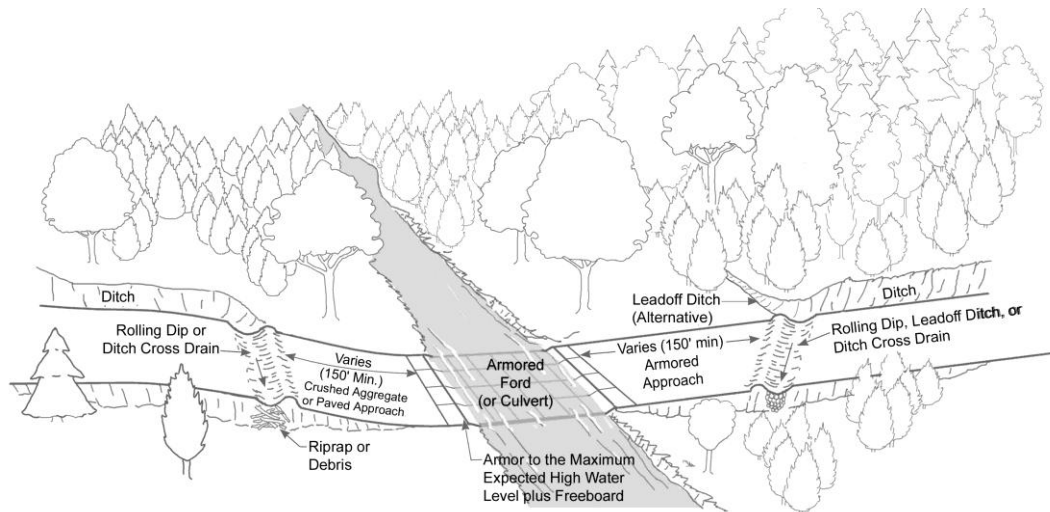

Figure 1.2 Sediment protection measures at stream crossings.
- To protect water quality and reduce sediment into water bodies (see Figure 1.2);